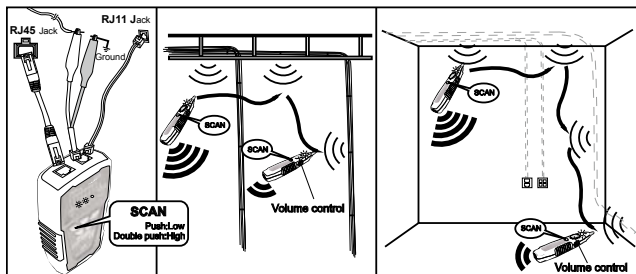

Figure 3 Locating cables
To locate cables, do the following steps (Figure 3) :
1. Connect the black alligator clip of the Transmitter to the ground, and then connect the red clip to a jack or punch-down block as shown in Figure 3.
2. As the Figure 3 shown, when push , the indicator of "POWER/ BAT LOW" will light up and turn on the power. Push  button for cable tracing. When the RED indicator flickered, the low-tone cable tracing is working. Push  button again to feature the high-tone cable tracing, the RED indicator will flicker faster. Push  button again, the RED indicator will be stopped and standby for next operation.
3. AS the figure 3 shown, push  on receiver to operate cable tracing function. The tracing sound will be output from speaker. When put on earphone, there will be no sound from speaker, but from the earphone.